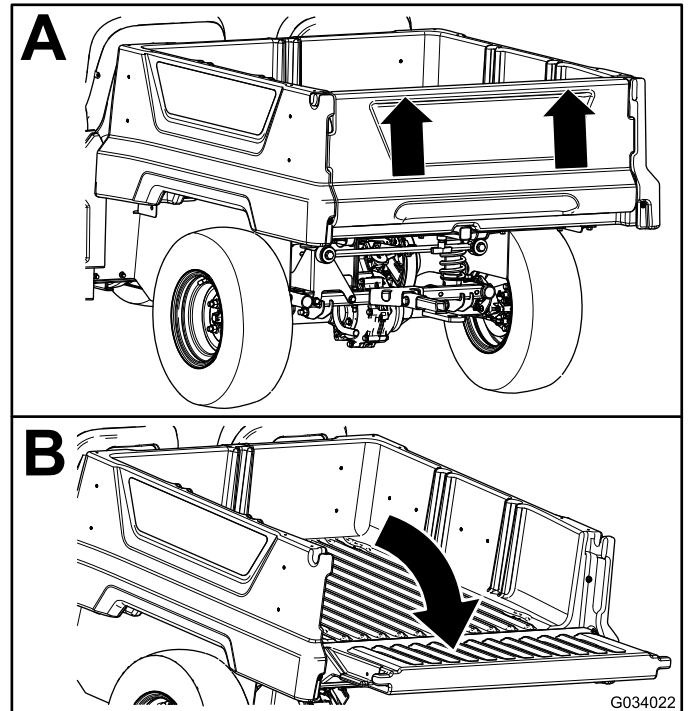

Figure 21
2. Using both hands, raise the tailgate using the ridge near the top of the tailgate (Figure 21).
3. Lower the tailgate until it is flush with the bottom of the cargo bed (Figure 21).